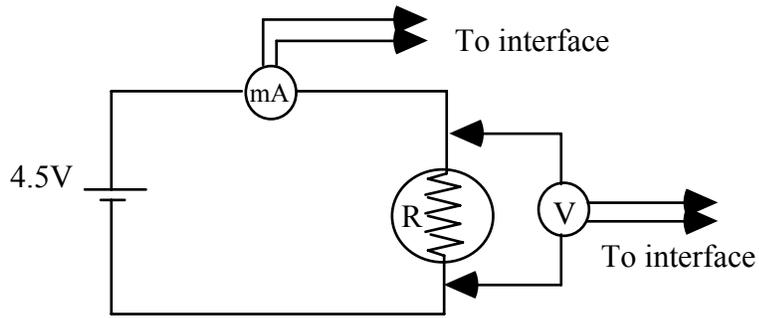

Figure 1.
2. Construct a circuit shown in Fig. 1.